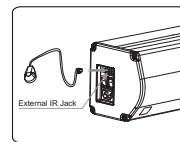

Figure 29
3. For hidden installation or IR window is blocked-out, please use the supplied IR Receiver Head and plug it into the relevant socket, and then install the screen at the position where IR signal is available (Figure 29)